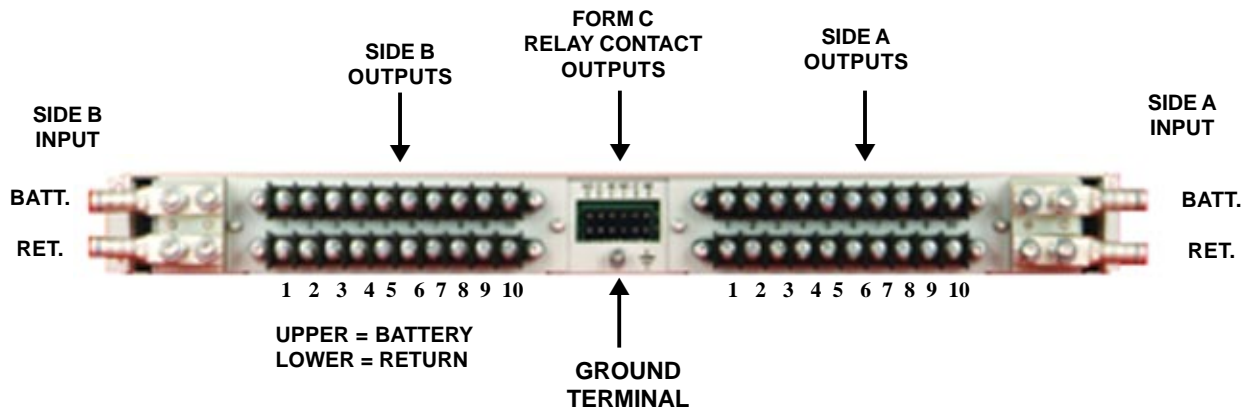

Figure 3. Back of Distribution Panels
8.1 Back View. Figure 3 shows the back of a distribution panel. The back panels of all models covered in this manual are identical, and all connections are made at the back panel. Inputs are at the left and right ends of the back panel. Side B outputs are at two rows of barrier terminal strips on the left side, and side A outputs are the same on the right side. At the center of the back panel are 12 wirewrap terminals for the Form C relay contact outputs. Below these is a chassis ground terminal.
8.2 Input Connections. See Figure 3. The DC power inputs to the distribution panels are made by means of crimp type lugs or direct connection to ¼ - 20 studs to two copper bus bars on side A and side B. The upper bus bar is the
- 8.4 Output Connections.** Output connections for A and B loads are shown in Figure 3. There are 10 sets of barrier terminal strip connections for each side, A and B. The connections are numbered to correspond with the numbers of the front panel fuses or breakers. The upper strip connections are from the battery through the fuses or breakers; the lower strip connections are the returns. Side B is on the left and side A on the right, as shown. Each terminal is a no. 6-32 screw and is rated at 30 amperes. Wire sizes from no. 10 AWG up to no. 22 AWG may be used for connections.
10.2 Connections. Input connections should be made with one- or two-terminal crimp type lugs using copper wire size from no. 1 to 8 AWG, depending on current and wire loop distance. See Sections 8.2 and 8.3. Output connections are made to the barrier terminal strips. See Section 8.4 and Figure 3. The Form C relay contact output connections are made to the wire-wrap terminals. See Section 8.5. The chassis ground connection is made to the no. 8-32 stud. See Section 8.6. This safety ground connection should be made before operating the panel.